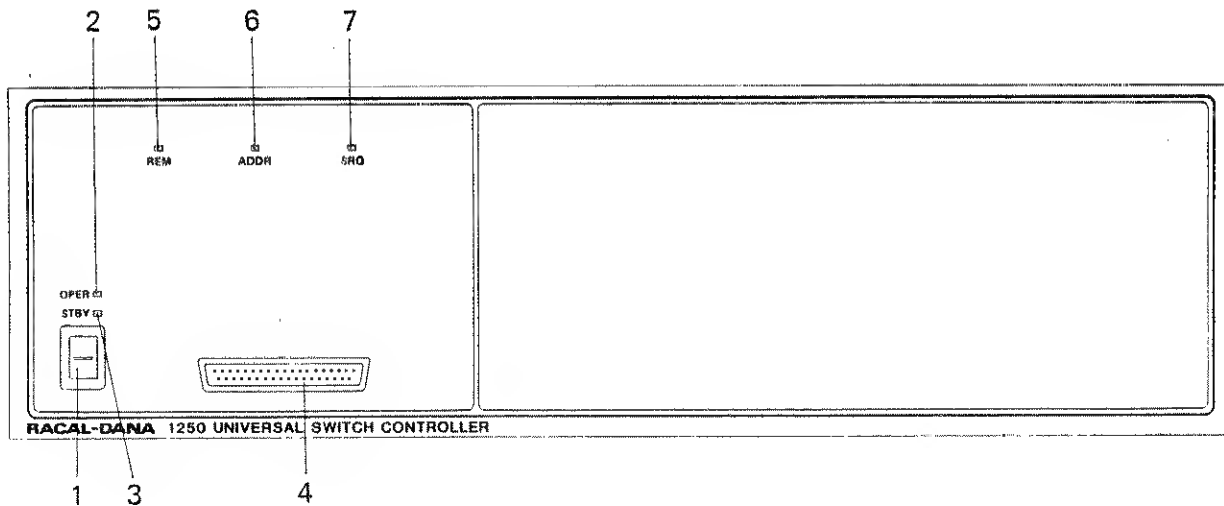

Figure 3-1, 1250 Front Panel
3.3.1 Refer to Figure 3-1 for a view of the 1250 Front Panel and to Table 3-1 for descriptions of the 1250 Front Panel features.